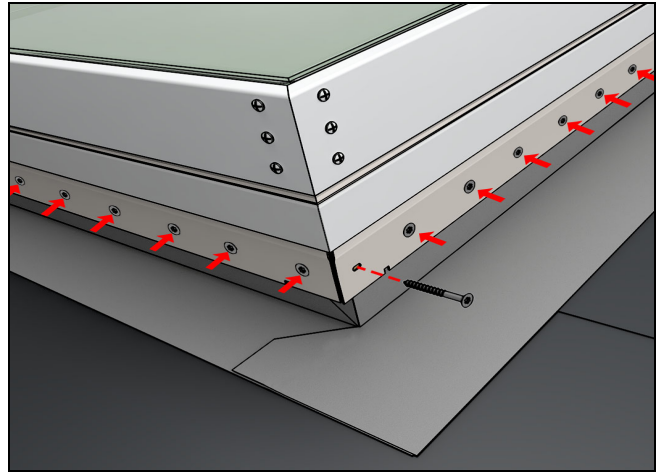

Figure 43
**14.** Center the unit on top of the curb and secure with appropriate fasteners, 1-1/2" roofing nails or a minimum #8 x 1-1/2" pan head stainless steel screws (exterior grade 1-1/2" screws). Note: Apply downward pressure to the top of the skylight frame while securing the screws. Do not over tighten the screws. See Figure 43.